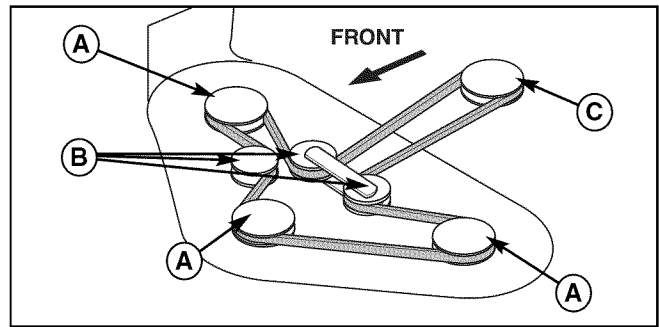

Figure 48. Mower Belt Routing
2. Remove the old drive belt and install the new one as shown in Figure 48. Make sure that the V-side of the belt runs in the pulley grooves of the spindle pulleys, and that the back of the drive belt must ride against the back-side idler pulleys (B).
3. Install the belt on the PTO pulley, the spindle pulleys and all the idler pulleys except the stationary idler pulley (B, Figure 48). Carefully rotate the breaker bar COUNTER-CLOCKWISE and install the belt on the stationary idler pulley.